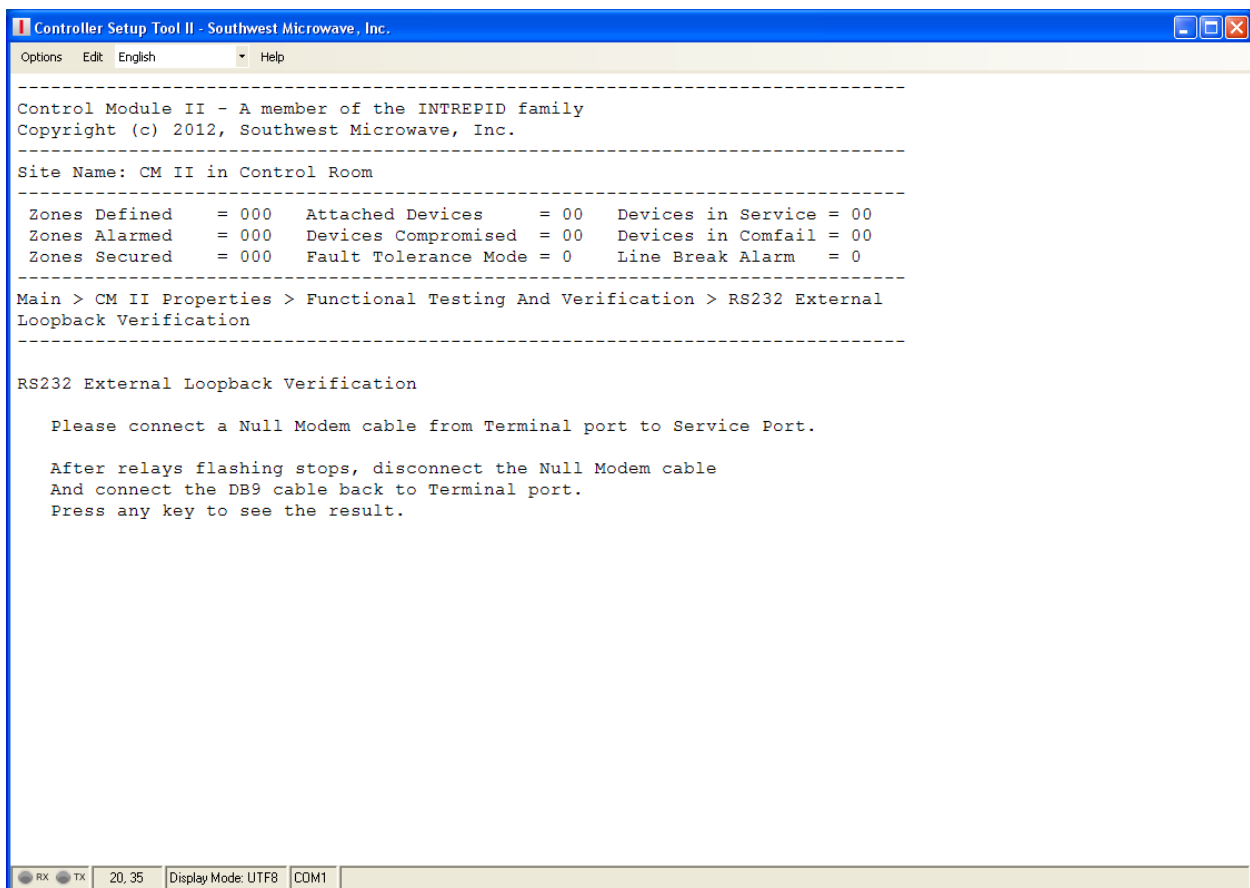

Figure 18 – RS232 External Loopback Verification Screen
Selecting command 3 will open the “RS232 External Loopback Verification” screen as shown in Figure 18. A null modem cable connected between the two (2) dB9 ports will be required to perform this test.